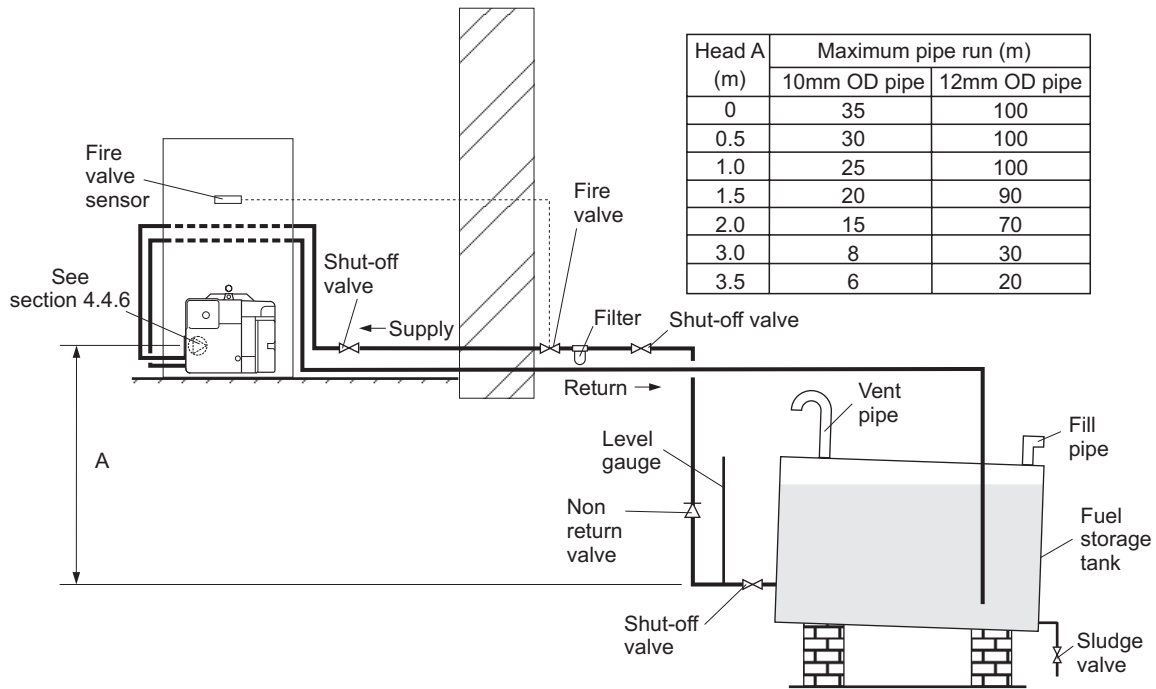

Fig. 4 - Two pipe system
4.4.4 Two pipe system - (See Fig. 4)
- 1 When the storage tank outlet is below the burner, the two pipe system should be used. The pipe runs should be as shown in Fig. 4. The return pipe should be at the same level in the tank as the supply pipe, both being 75 to 100 mm above the base of the tank. The pipe ends should be a sufficient distance apart so as to prevent any sediment disturbed by the return entering the supply pipe.
- 4 To be used with a two-pipe system, the burner **must** be fitted with an additional flexible fuel line (a flexible fuel line (600 mm) and $\frac{3}{8}$ " to $\frac{1}{4}$ " BSP male adaptor are available to purchase from Grant Engineering (UK) Limited), Part No. RBS104. See Section 4.4.6.